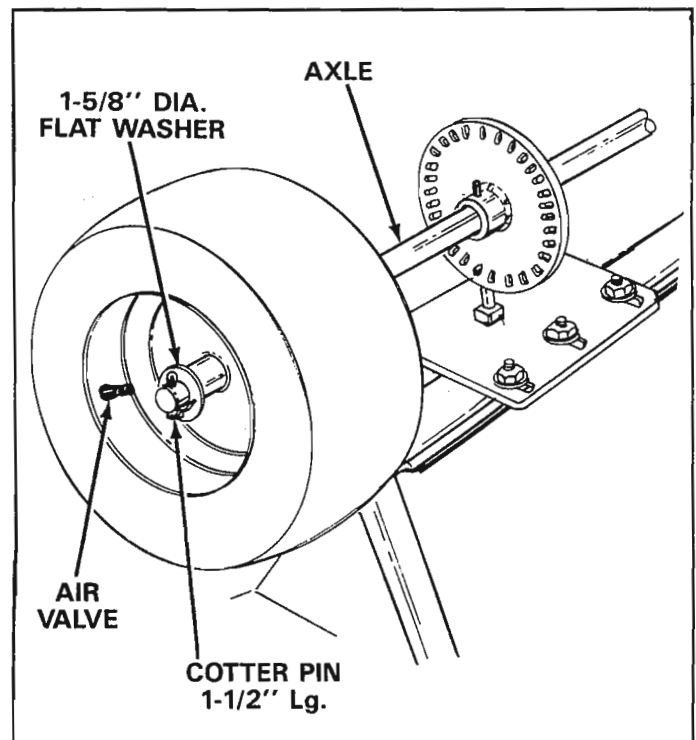

FIGURE 5
- 5. Place wheel assembly without hole through hub (air valve to the outside) onto axle end having the smallest hole and secure with 1-5/8" diameter flat washer and 1/8" x 1-5/8" cotter pin. See figure 5. Use extra 1-5/8" diameter flat washer if needed to take up play.
15. Assemble the flow link control (the end with smallest hole) to the flow control arm using one 1/4" x 5/8" hex bolt and one 1/4" lock nut. See figure 5. **DO NOT OVER TIGHTEN, FLOW CONTROL LINK MUST PIVOT FREELY.**
3. If for any reason the axle, gear and sprocket assembly is disassembled, be sure to mark position of parts as they are removed. Drive wheel and sprocket position determine relation direction of spreader plate. See figure 5. With reassembly of gear and sprocket use shim washers (see page 10 Ref. No. 21) as needed for minimum backlash. Add grease to gear and sprocket.